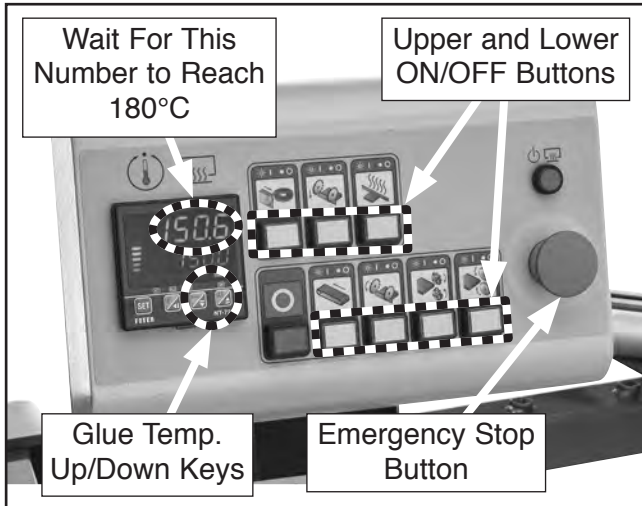

Figure 59. Location of edgework controls.
6. Rotate Emergency Stop button to reset it, then press lower green ON/OFF buttons to start machine (see **Figure 59**).
7. Use Temperature UP/DOWN keys to set glue pot temperature according to glue manufacturer's instructions. Wait for glue pot to reach at least 180°C, then glue spindle motor will start (see **Figure 59**).
8. Press upper green ON/OFF buttons, shown in **Figure 59**, to activate pneumatic guillotine sensor, end trimmer sensor, and heated infeed fence.